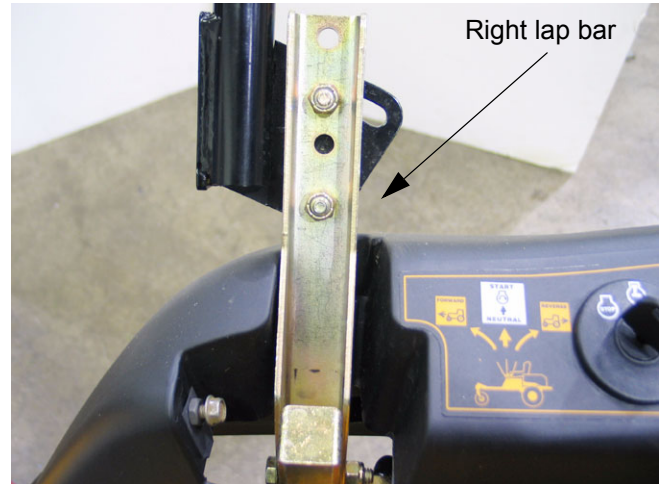

Figure 7.7
- 7.7. Align the post on the ferrule with the hole that it seats into on the neutral return assembly. Thread the ferrule up or down the length of the control rod to center the lap bar in the neutral recess in the control console. See Figure 7.7.